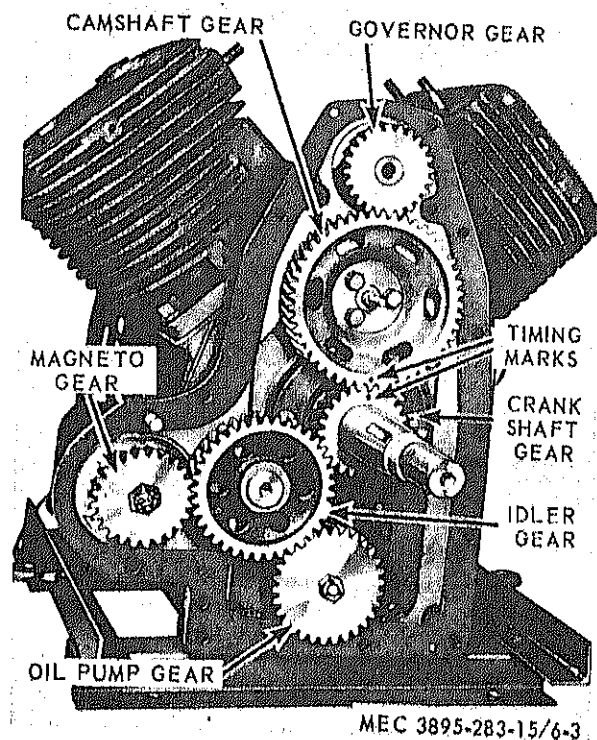

Figure 6-3. Exposed Gears.
a. Removal (fig. 6-3).
(1) Remove the three cap screws and lock washers which hold the gear to the end of the camshaft.
(2) Pry the gear off the camshaft using a screw driver or similar wedge tool.
(1) The timing marks on the crankshaft gear and the camshaft gear must be matched (fig. 6-3).
(2) Mounting holes in main bearing plate are off-set in such a manner that it can only be mounted in the correct position. Tighten main bearing plate capscrews with 25 to 30 foot pounds torque.